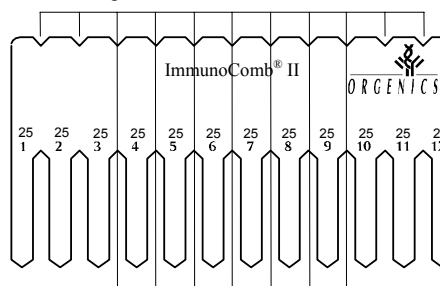

Figure 4. Breaking the Card
- b. Bend and break the Card vertically or cut with scissors (see Figure 4) to detach the required number of teeth (No. of tests + 2 controls).